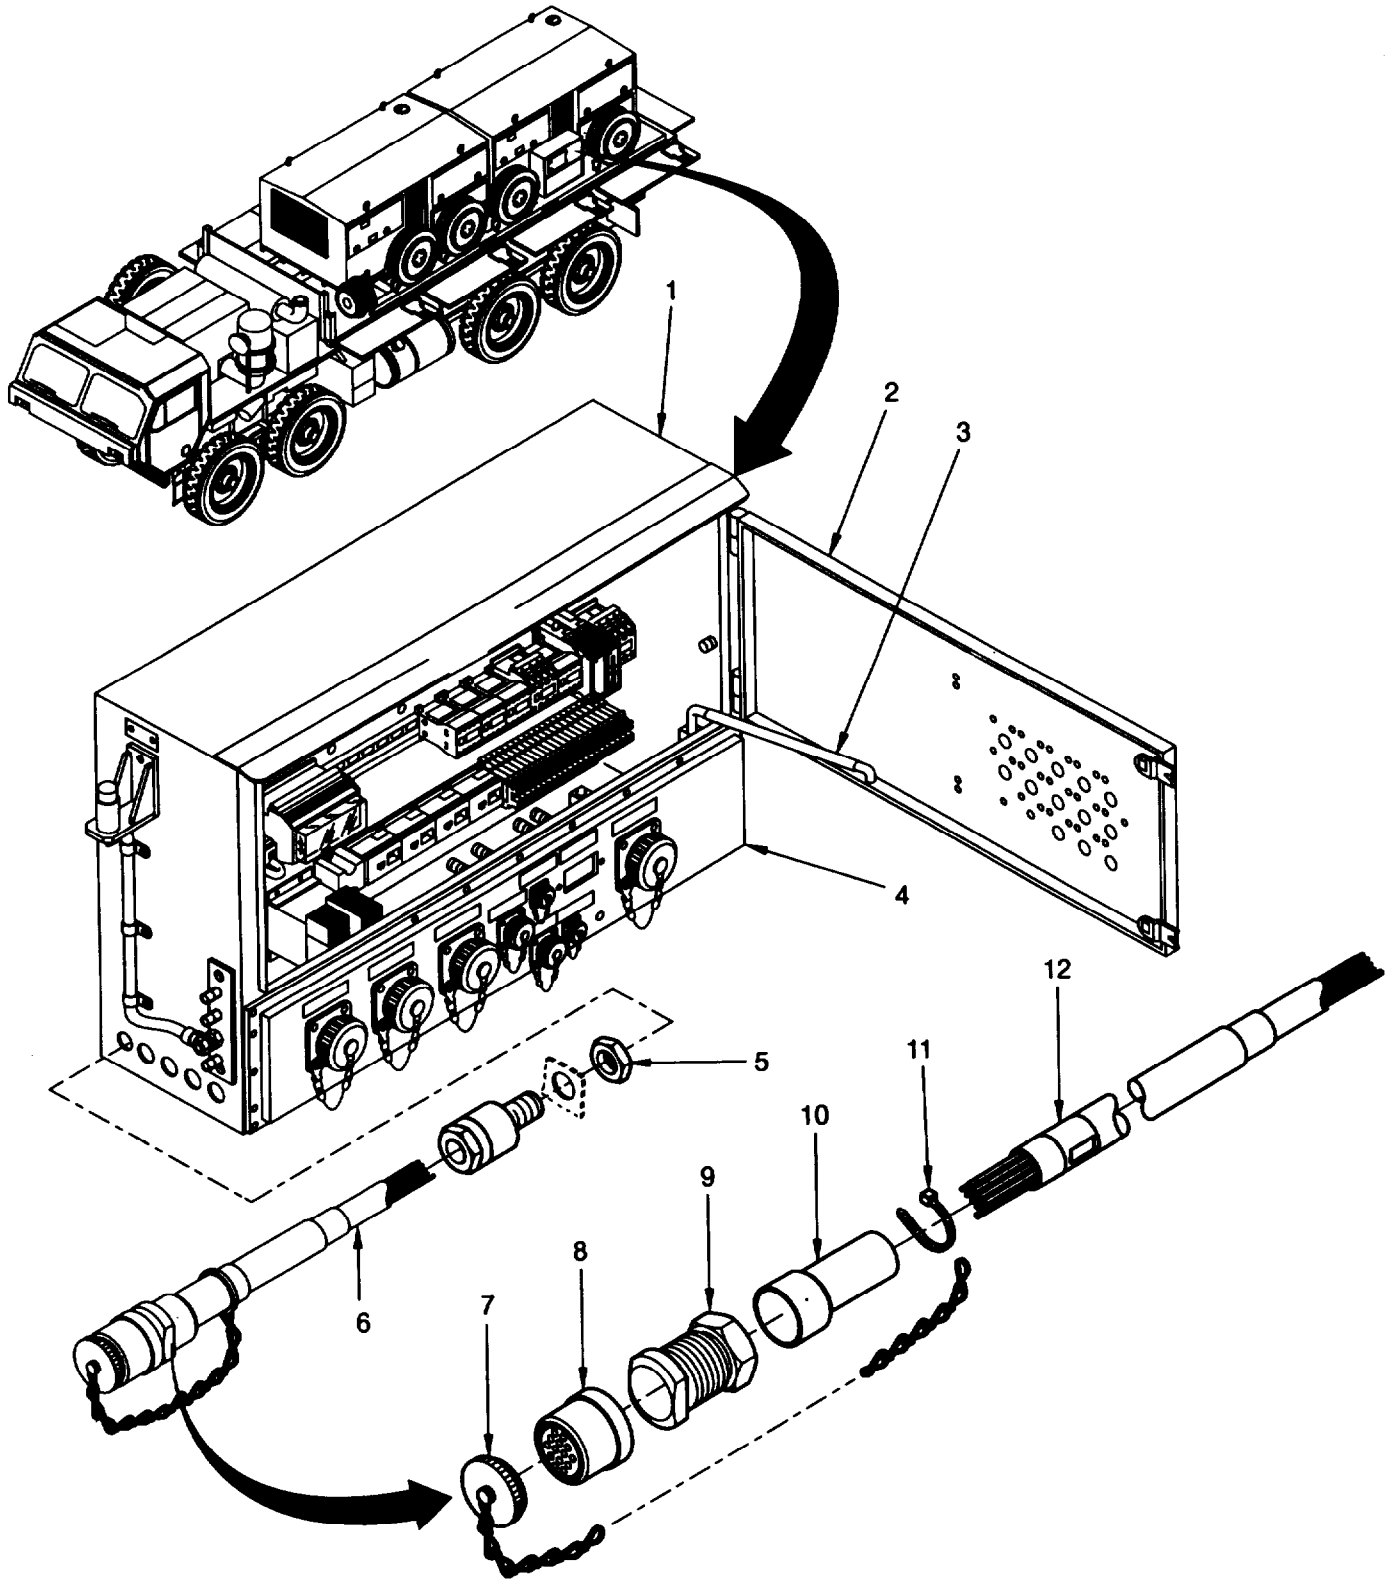

Figure 5-8 Control Cable Assembly, PDU to Generator Set 150 kW.
- a. Remove stanchion by PDU (1, figure 5-8).
- b. Open access door (2) and secure with prop (3).
- d. Refer to paragraph 5.17, and remove connection panel (4) as instructed.
- f. Using the shop manufactured wrench, remove nut (5) from cable (6). Remove cable from PDU (1).